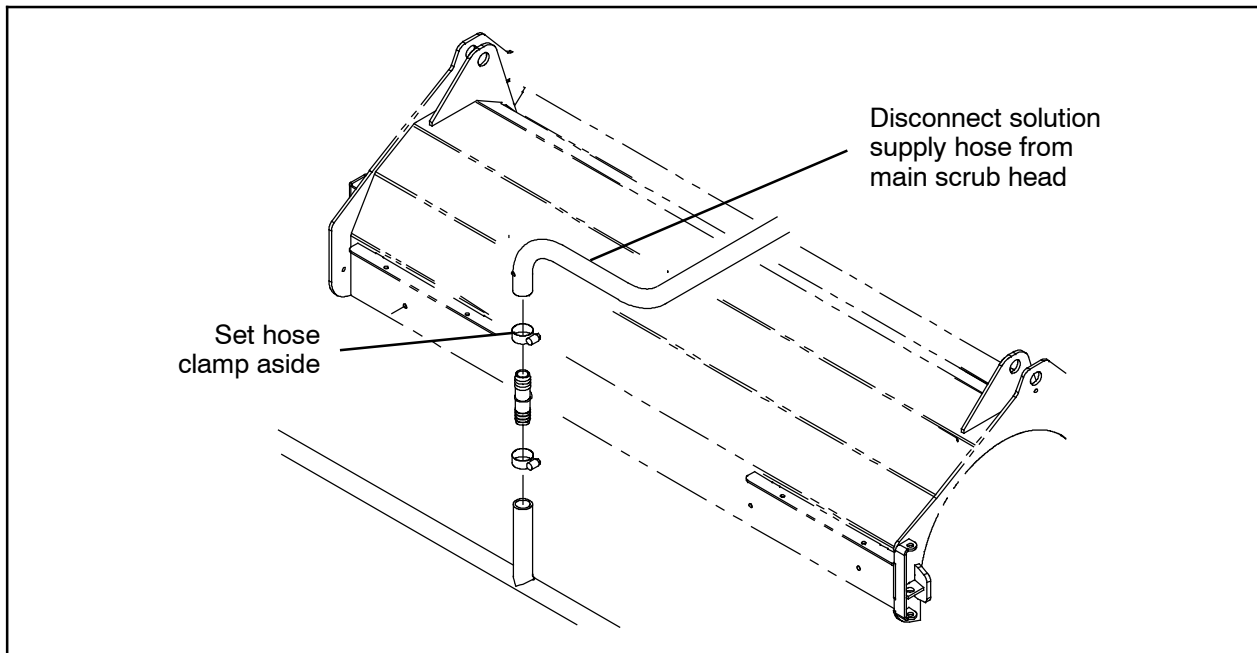

FIG. 2
2. Disconnect the water supply hose from the main scrub head. Set the hose clamp aside. (Fig. 2)